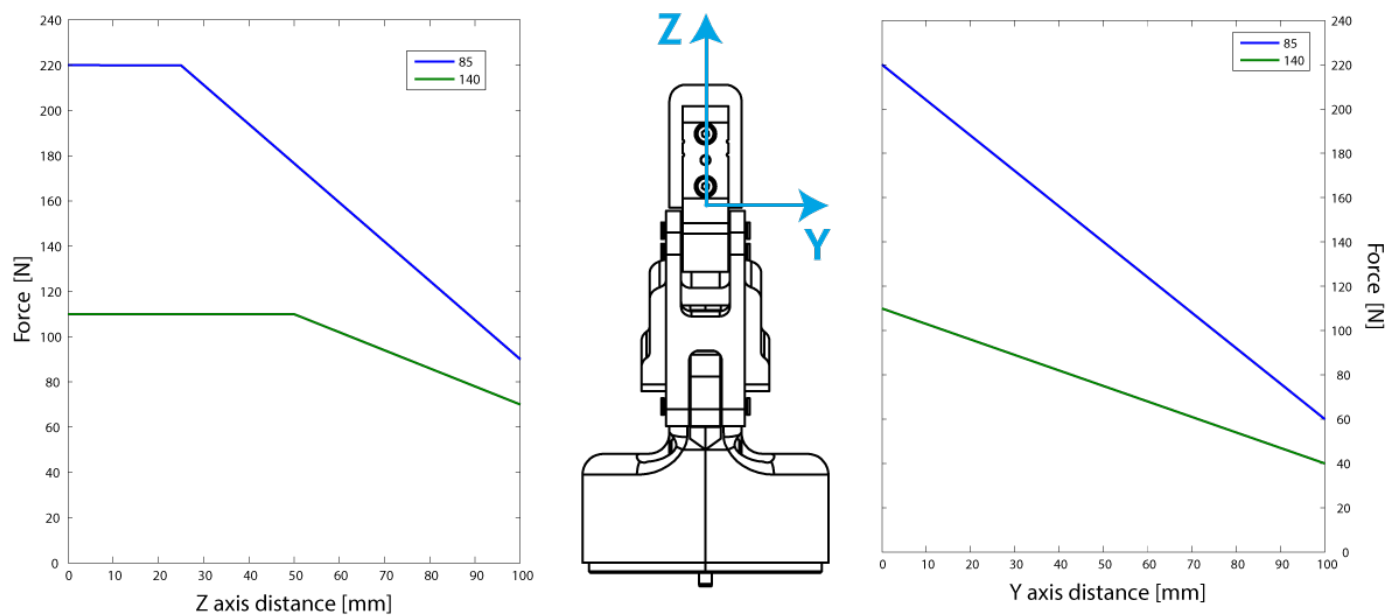

Fig. 6-18: Grip force in the Y and Z axis for the 2-Finger 85 and 2-Finger 140.
- Fingertip must not exceed 100 mm in width from the fingertip's base (refer to Y axis from figure 6.18).
The user of the Gripper must always ensure that the result of the forces against the finger is always lower than the maximum holding force as seen in figure 6.18.